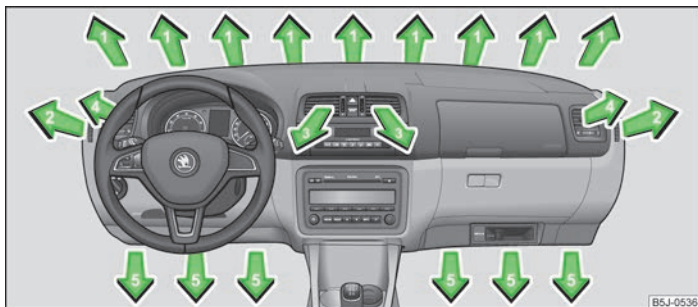
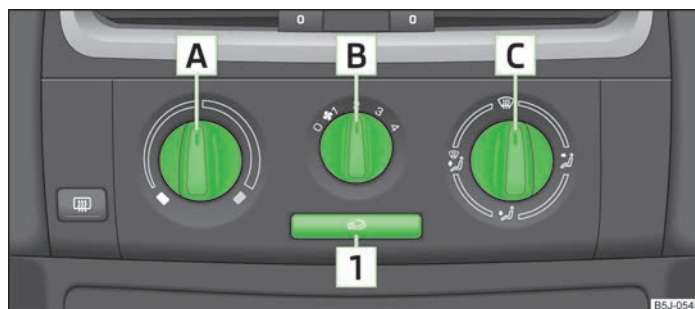

Fig. 77 Air outlet vents
Fig. 78 Heating: Control elements
➤ Turn the vertical wheel (air vents 3) » Fig. 77 or the horizontal wheel (air outlet nozzles 4) into position 2.
➤ Turn the vertical wheel (air vents 3) » Fig. 77 or the horizontal wheel (air outlet nozzles 4) into position 0.
- In order to change the strength of the air flow, swivel the horizontal lamellas with the aid of the moveable adjuster » Fig. 77.
Set the air supply to the individual vents with the air distribution control [C] » Fig. 78 on page 71. Air outlet vents 3 » Fig. 77 and 4 can also be opened or closed individually.
- Turn the control dial [A] » Fig. 78 to the right to increase the temperature.
- Turn the blower switch [B] » Fig. 78 into one of the positions, 1 to 4, to switch the blower on.
- The direction of the inlet air flow is controlled with air distribution regulator [C] » Fig. 78 » page 71.
All controls apart from the blower switch [B] » Fig. 78 can be set to any desired intermediate position.
- Controls **A** » Fig. 78 on page 71, **B**, **C** and the button **1**.
- Air outlet vents **4** » Fig. 77 on page 71.
- We recommend that you leave the air outlet vents **3** » Fig. 77 on page 71 in the opened position. ■
- Press the button  **1** » Fig. 78 on page 71 and the warning light in the button illuminates.
- Press the button  **1** » Fig. 78 on page 71 again - the warning light in the button goes out.
Recirculated air mode is switched off automatically if the air distribution control **C** » Fig. 78 on page 71 is turned to position . Recirculated air mode can be switched on again from this setting by repeatedly pressing the button . ▶
- We recommend that you leave the air outlet vents **3** » Fig. 77 on page 71 in the opened position.